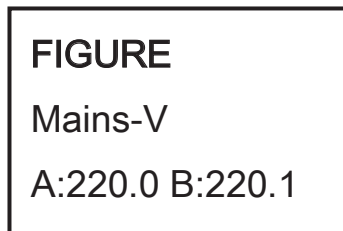

Fig.4:Input volt info
- 5) Select and confirm the data info to be viewed in detail. It contains the details of the AC input /output , inverter, battery , BUS, parallel , temperature. See Fig 4 to 13 below.